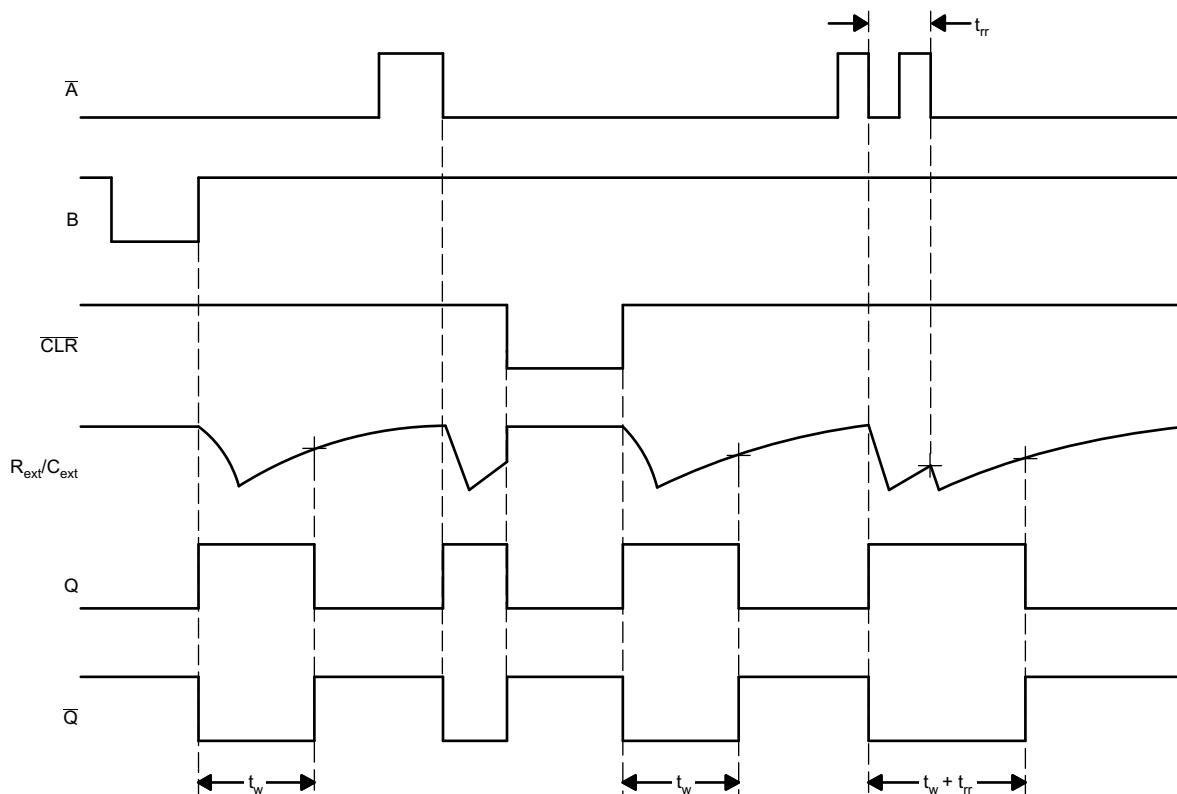

Figure 1. Input and Output (I/O) Timing Diagram
over recommended operating free-air temperature range,  $V_{CC} = 3.3\text{ V} \pm 0.3\text{ V}$  (unless otherwise noted). See Figure 1 and the circuits in the Parameter Measurement Information section.
over recommended operating free-air temperature range,  $V_{CC} = 5\text{ V} \pm 0.5\text{ V}$  (unless otherwise noted). See Figure 1 and the circuits in the Parameter Measurement Information section.
When triggered, the basic pulse duration can be extended by retriggering the gated low-level-active ( $\bar{A}$ ) or high-level-active (B) input. Pulse duration may be reduced by taking  $\overline{\text{CLR}}$  low. The input-output timing diagram (Figure 1) shows pulse control by retriggering the inputs and early clearing.